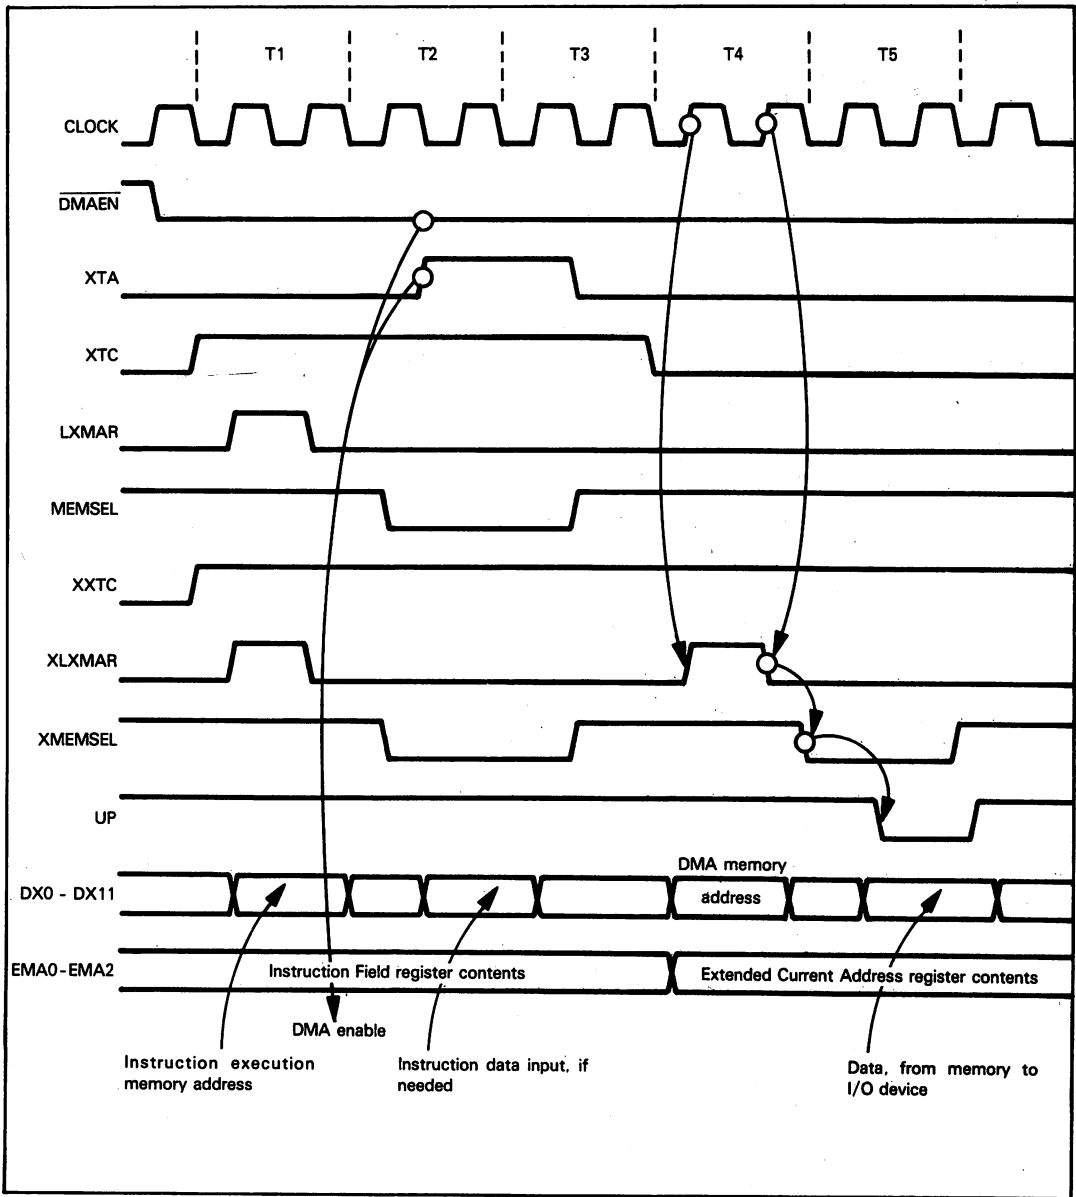

Figure 13-41. IM6102 DMA Read Timing
If you look again at the various machine cycle timing diagrams, you will see that with the exception of data output machine cycles, the second half of the machine cycle is used for operations internal to the CPU. This time is therefore available to perform a second memory access. The IM6102 uses the second half of non-data output machine cycles in order to perform a second memory access, either to refresh dynamic memory or to perform a direct memory access operation. Figures 13-41 and 13-42 illustrate timing for a DMA read and a DMA write, respectively. A memory refresh machine cycle differs from a DMA machine cycle only in pulse timing, as defined in the data sheets at the end of this chapter. Also, there is no low UP pulse during a memory refresh machine cycle.
**In normal DMA mode, a DMA operation will be performed during every allowed machine cycle, providing  $\overline{DMAEN}$  is low at the beginning of the machine cycle.** However, an LWCR instruction must be executed to start a normal DMA mode operation. As illustrated in Figures 13-41 and 13-42,  $\overline{DMAEN}$  is sampled on the rising edge of XTA. If  $\overline{DMAEN}$  is high at this time, then no DMA operation will occur. Logic internal to the IM6102 decodes the instruction object code which the IM6102 receives along with the IM6100 in order to identify machine cycles when no memory write operation is scheduled and a DMA operation can therefore be performed. When the Word Count register increments from FFF16 to 00016, a normal DMA operation stops. Status/Control register bit 5 is set (as already described) and if interrupts have been enabled, an interrupt request is generated. IM6102 DMA logic remains in normal mode at this time; however, it must be restarted under program control by executing another LWCR instruction. Thus, the following instruction sequence will initiate normal DMA mode: